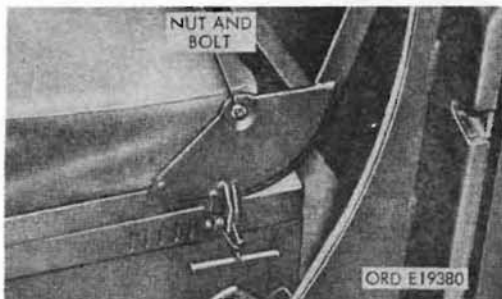

Figure 261. Driver's seat cushion disconnect points
- (1) Removal. Slide the backrest cushion up and off the frame. Remove the two nuts and bolts holding the seat cushion hinges to the seat frame hinges (fig. 261), and remove the cushion.
- (2) Installation. Position the seat cushion on the seat frame and fasten the hinges with the two bolts and safety nuts. Slide the backrest cushion over the back frame so that frame enters the upper portion of the cushion cover.